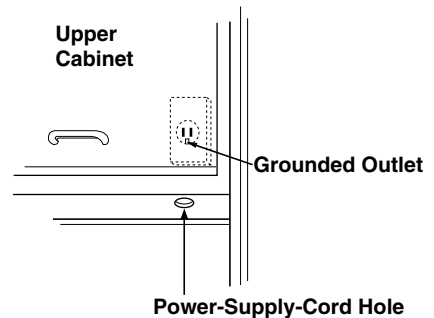

Figure 4 Detail
1. Locate the grounded electric outlet for this oven in the cabinet above the oven, as shown in Figure 4 Detail.
2. You will cut the power-supply-cord hole (shown in Figure 4 Detail) later when you prepare the wall and upper cabinet in Step 4.